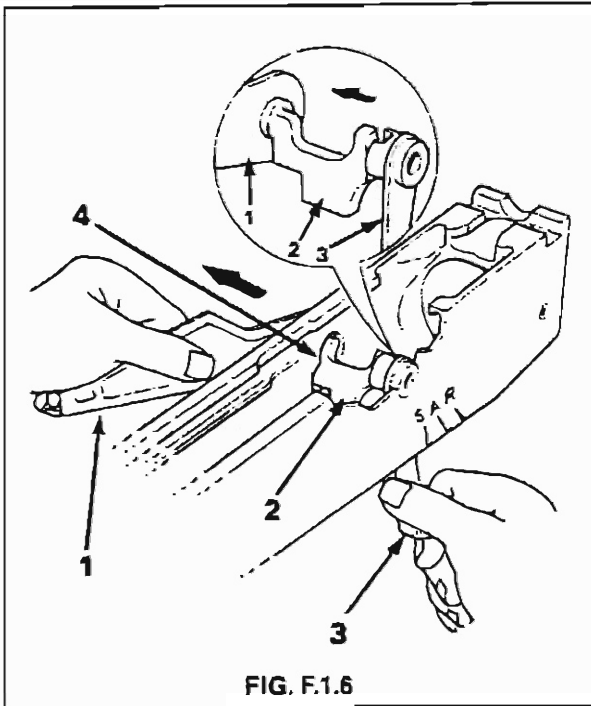

FIG. F.1.6
4. Remove the change lever assembly by moving the Right Hand change lever until the change lever body, aligns with the slot in the side of the receiver. Pull the end of the Right Hand change lever away from the receiver, easing the change lever body through the slot in the receiver. See Fig. F.1.6.